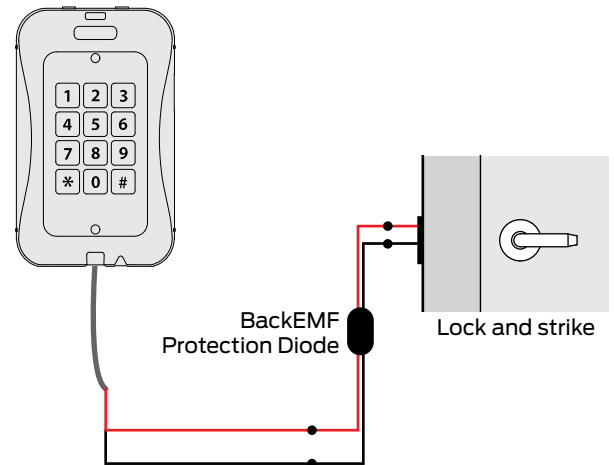

Figure 2.4: Typical fail-secure door lock wiring
1. Connect the red wire on the Reader Controller to the positive lead of the electric lock. See **Figure 2.4: Typical fail-secure door lock wiring**